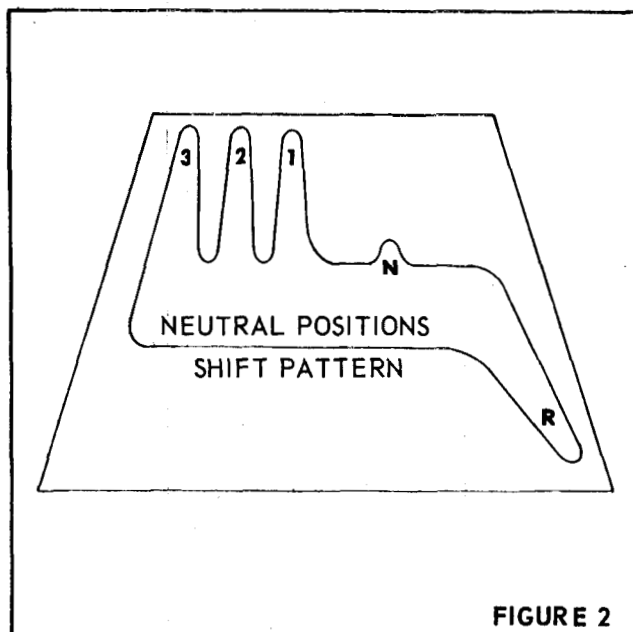

FIGURE 2
- b. Turn clevis to lengthen rod if unit won't move with lever in the forward (N) position. (Fig. 2.) Turn clevis to shorten rod if unit won't move when the lever is pulled back against the
back of shifter panel. Pull directly in back of the (N) position and in back of the (3) position. (Fig. 2.)